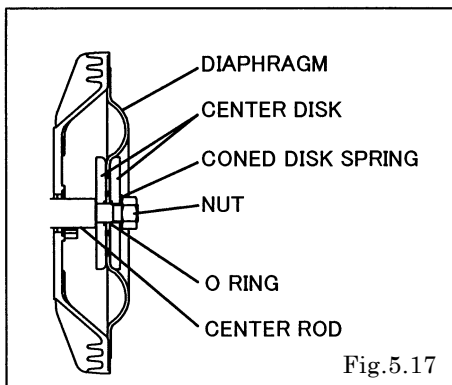

Fig.5.17
- Keep the convex side to the outside (cf. Fig.5.17).
- Put the O rings to both sides of the diaphragm. (cf. Fig.5.17)